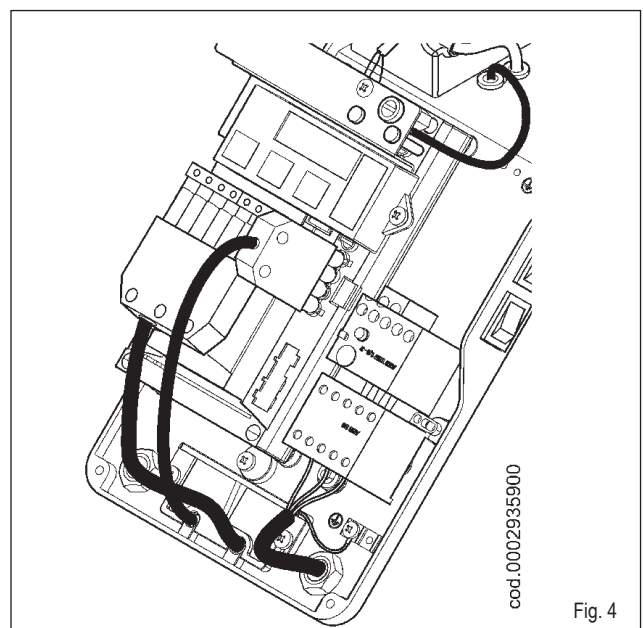

Fig. 4
- Completely remove the mixing unit, pulling it out in the direction shown by arrow 9, after pulling the ignition and ionisation cables 10 out of their electrodes (figure 4).